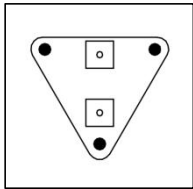

Fig.1.
1. Use wall panels(3) to set the required fans position . Mark three mounting holes,drill three holes into the marked locations. Make sure your mounting area is structurally sound and free from obstruction.See the(Fig.1.)